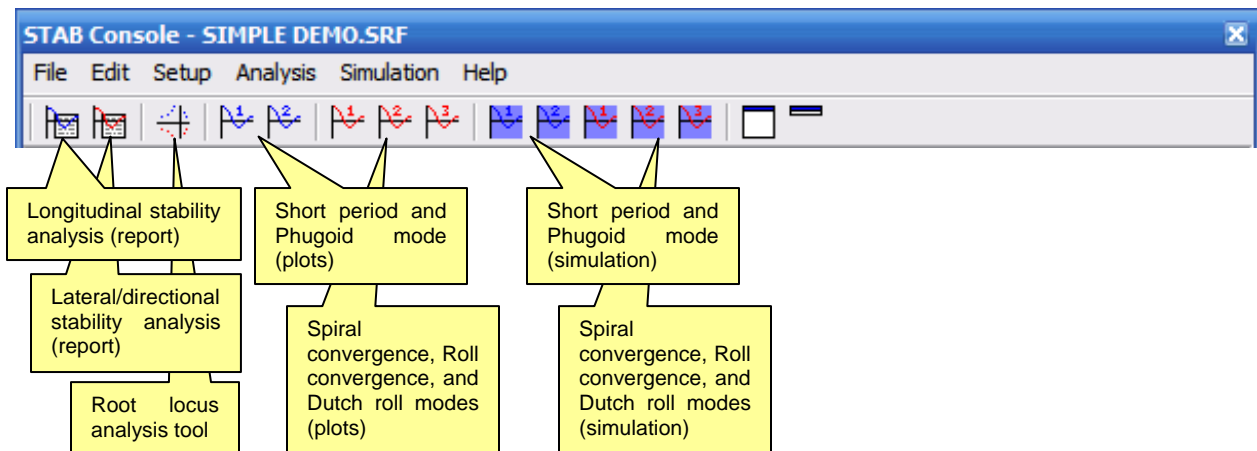

**Figure 8-3: Stability derivatives for the model (Steps 24-28).**
- STEP 8.6 In addition, uncheck the following variables:  $CL$ ,  $CDi$ ,  $CD$ ,  $CDa$ ,  $hcg$ , and  $hn$  (see Figure 8-3). This will prevent them from being overwritten, but they already contain algebraic expressions that we don't want to be deleted.